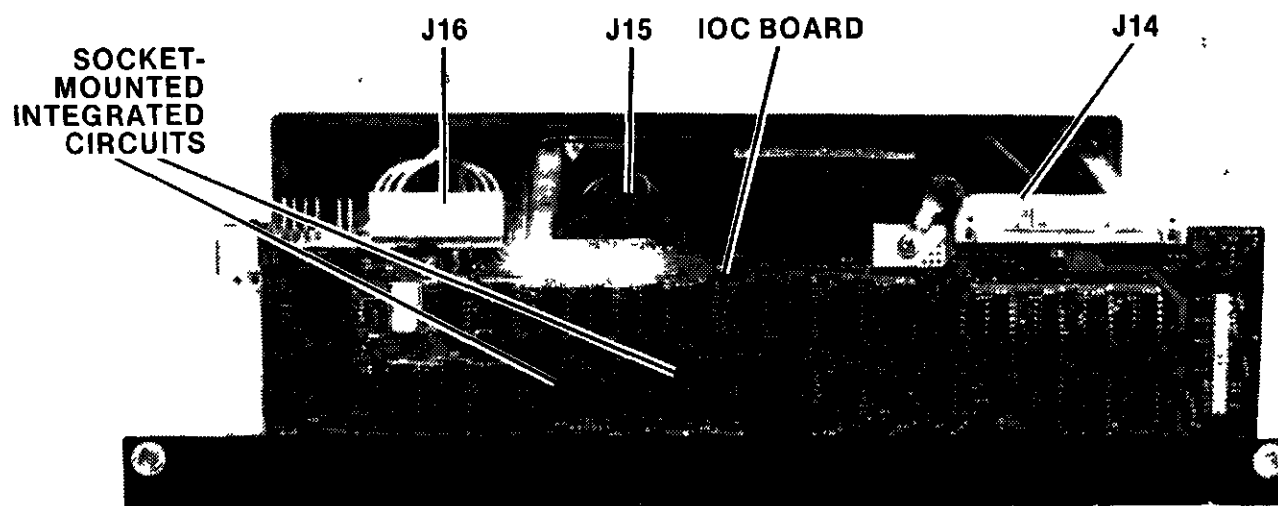
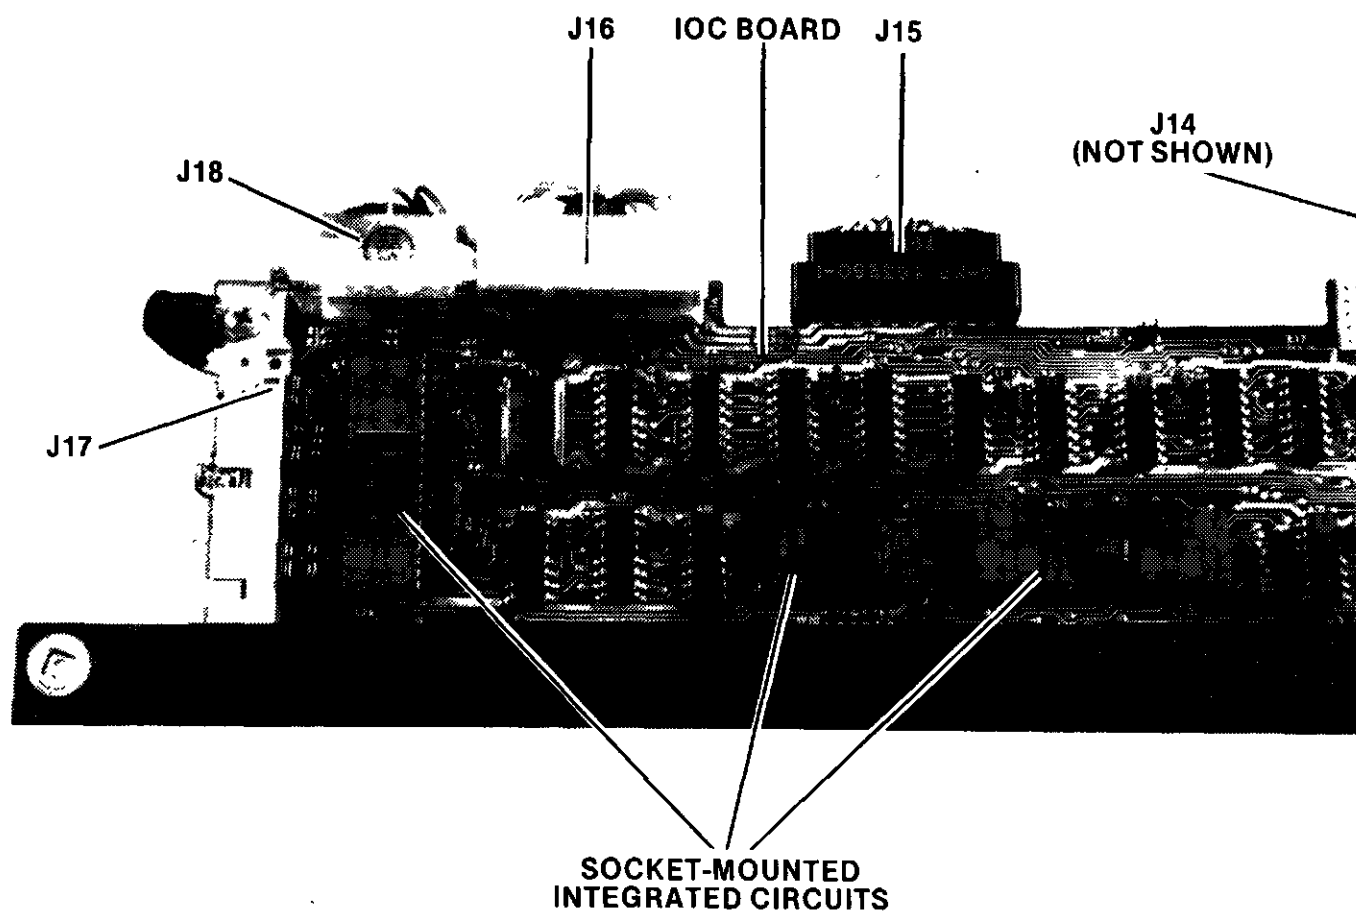

Figure 2-2. Model 23X Edge Connectors and Socket-Mounted Integrated Circuits
Figure 2-3. Model 22X Edge Connectors and Socket-Mounted Integrated Circuits
3. On Models 22X and 23X there are three edge connectors (J16, J15, and J14, from left to right) at top of IOC printed circuit board at rear of chassis. (See figure 2-2.) In addition to these three connectors, the Model 22X has two additional connectors (J17 and J18) to left of J16. (See figure 2-3.) Carefully disconnect attaching cable from each of these connectors, one at a time, and then push it firmly back on to ensure proper seating.
4. There are integrated circuits (two on Model 23X and three on Model 22X) mounted in sockets below connectors J16, J15, and J14. (Refer to figures 2-2 and 2-3.) Press firmly inward on these integrated circuits to ensure proper seating. Replace top cover.